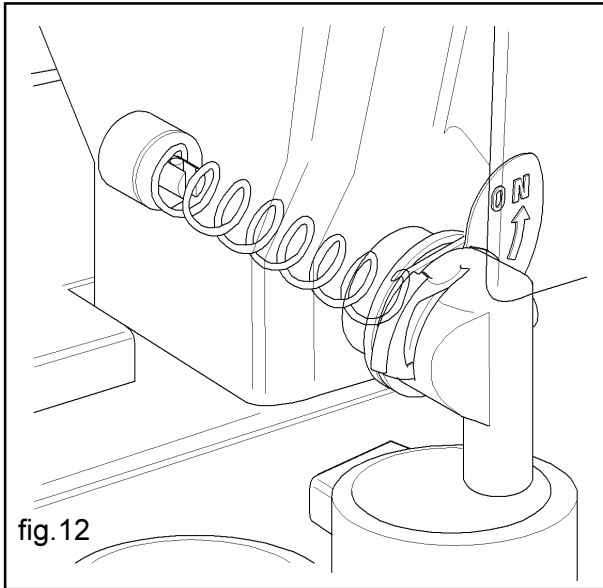

fig.12
- The instant product gear motor activates the helicoidal screw conveyor so as to dispense the programmed quantity of product into the mixer (fig.12).